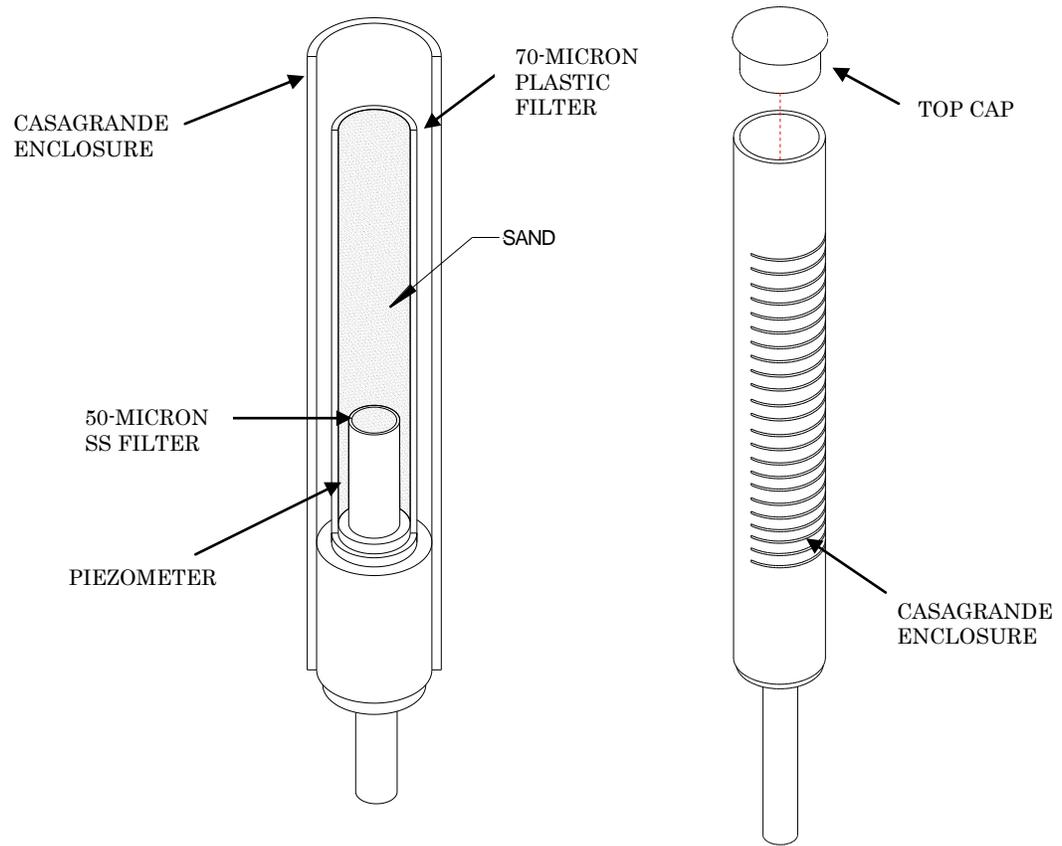

Figure 1 – P-100-1 General Arrangement
The RST Standard P-100-1 Pneumatic Piezometer is the recommended general-use pneumatic piezometer. It consists of a P-100 transducer encapsulated in a slotted PVC, sand filled, Casagrande-type piezometer body. This body employs a protected 70-micron porous plastic filter in addition to the 50-micron stainless steel filter on the piezometer tip (Figure 1).
2. Lay out the tubing and cut the individual tubes so that the unions will be staggered when the tubes are joined (Figure 1). Make sure to cut the tubes as square as possible.
5. Using **ONLY** the brass compression fittings provided, join the pneumatic lines maintaining the black to black, white to white, colour coding (see Figure 1). **Never re-use any old**